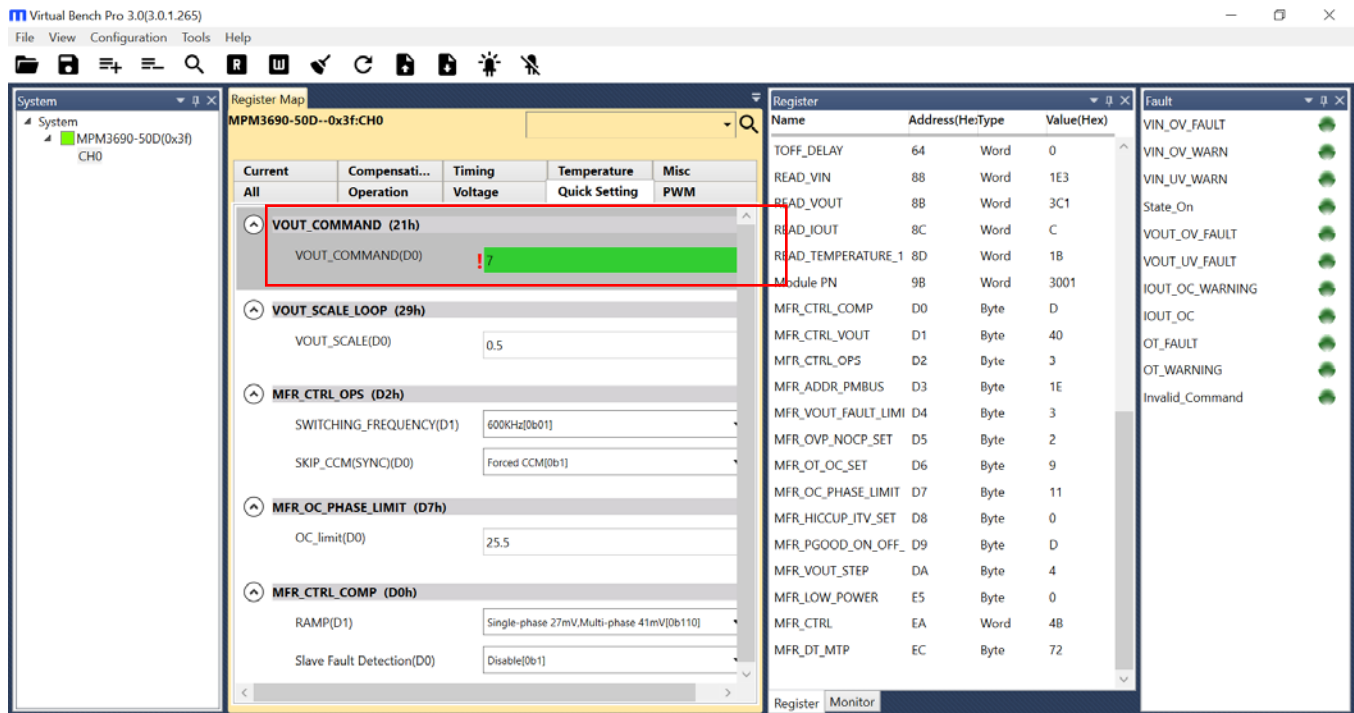

Figure 5: Enter Desired Values in the Register
- Program the registers to desired values. A valid input must be entered or an alert appears and the entered value is not accepted (see Figure 5).